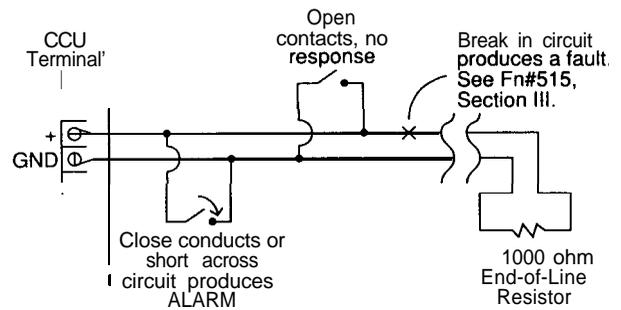

Figure 2-2 Open Loop (Fn#515 = 1)
- Hardwired circuits may conform to either Figure 2-2 or 2-3 (Open or Closed). The end-of-line resistor is 1000 ohms. For household fire applications, use UL listed end-of-line resistors (AT&T part # 846626109) and the Open Loop configuration.